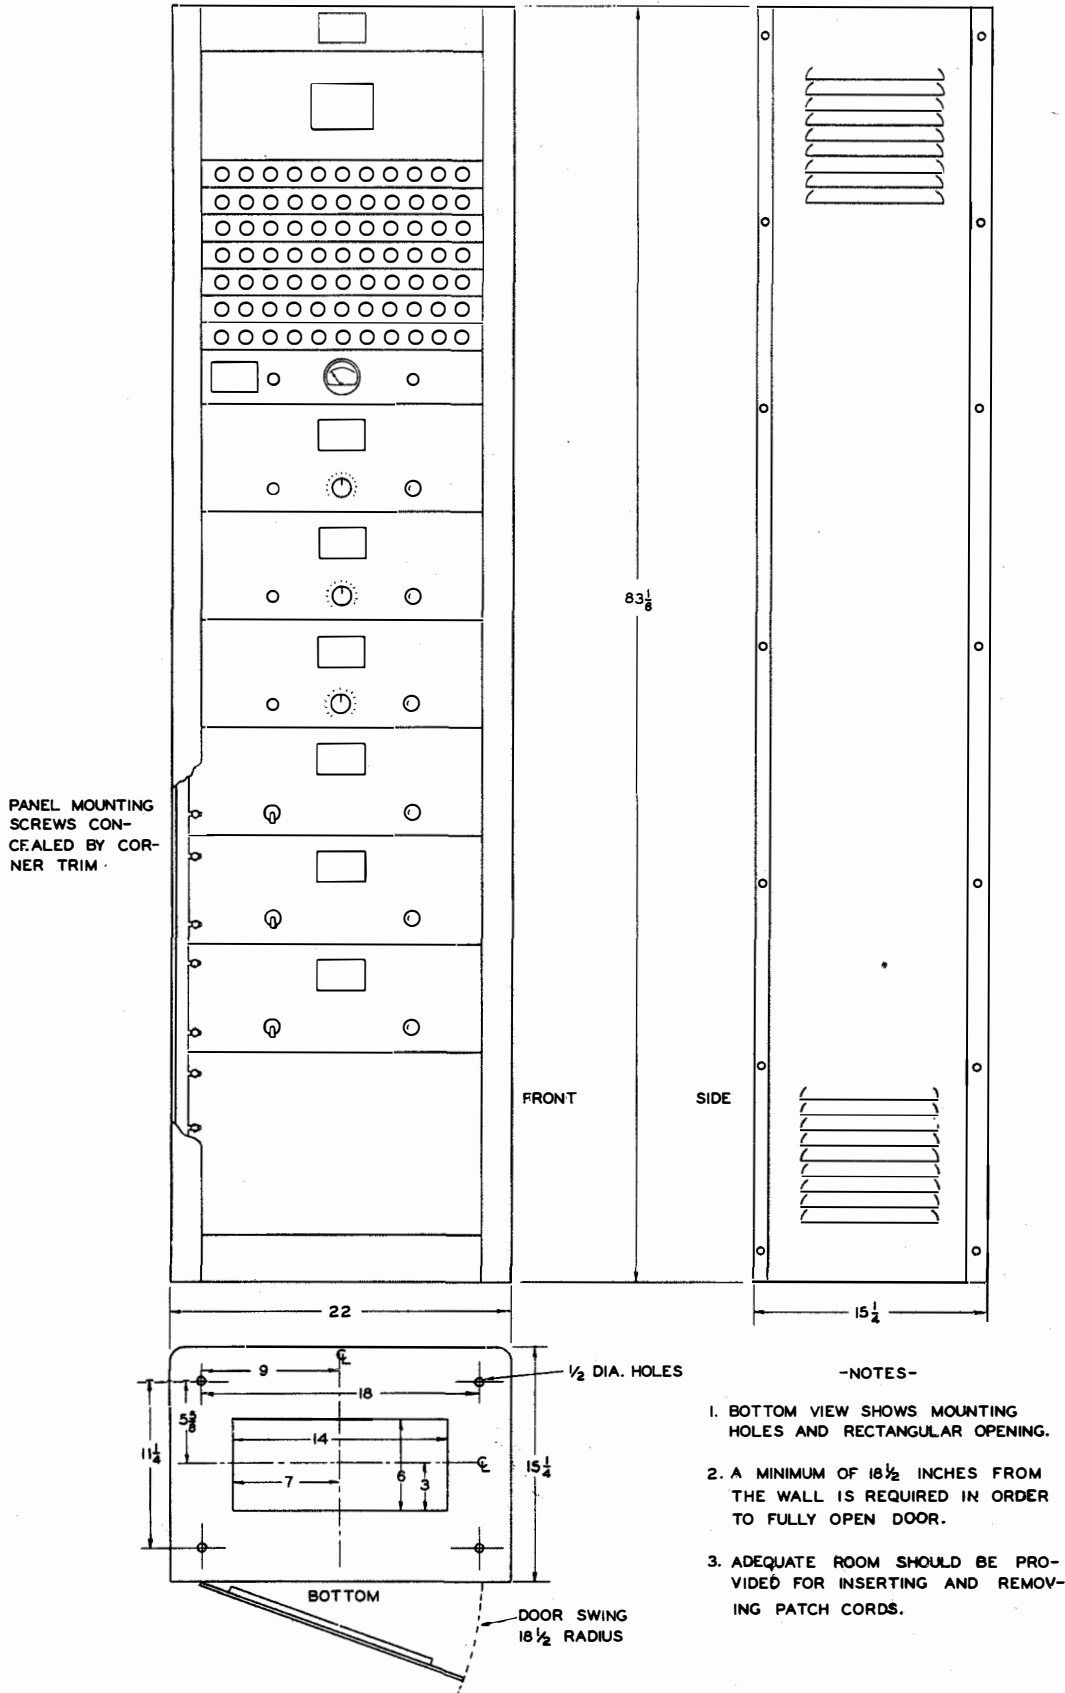

Figure 3-1. Model RXA Antenna Multicoupler Assembly, Outline and Mounting Dimensions
(1) The operating controls should be readily accessible to the operator.
(2) The control panel should be clearly visible to the operator.
(3) The equipment should be located so that minimum lengths of coaxial cable may be used to the antenna installation and the receivers.
(4) The equipment should be located so that the back of the Multicoupler Assembly is readily accessible for maintenance.
*b. MOUNTING EQUIPMENT.*—To locate the mounting holes for the Multicoupler Assembly, see figure 3-1.